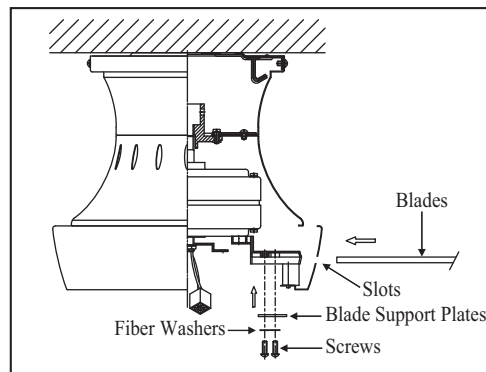

Figure 19
1. Insert the blade through the blade slot in the decorative housing. Align the holes in blade and blade arm, place the blade support plate on blade as showing in Figure 19, making sure the holes are also aligned and secure with fiber washers and screws provided.